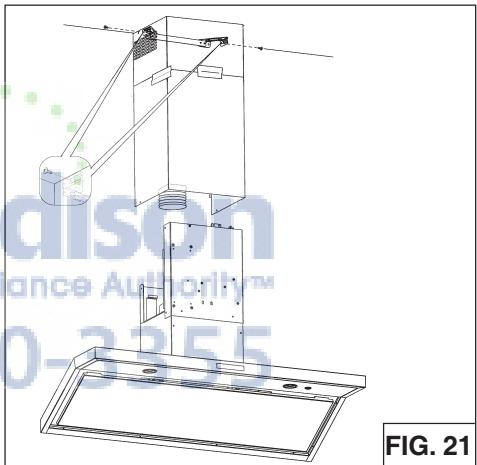

FIG. 21
6. Lift the flue into position above the hood. Secure upper flue to the flue mounting bracket with (2) 3.9 x 6 mm screws (Fig.21).